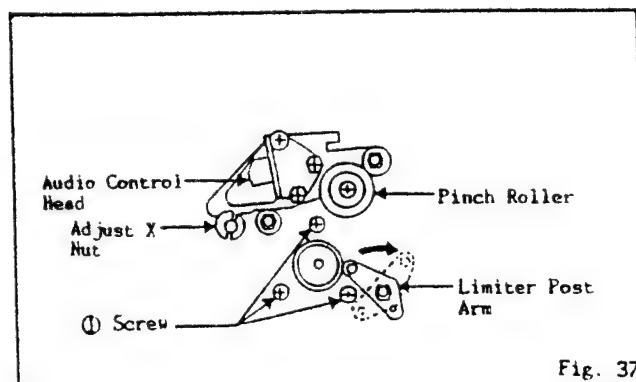

Fig. 37
2. Remove the 3 screws ① (SEMS A 2.6x6) held to DD unit on front of the Deck. (Fig. 37)
1. Return the Limiter Post to the dotted line, then fit new DD unit to the chassis without touching center of the shaft of the DD unit to the chassis. And return the Limiter Post to where it was. (Fig. 37)